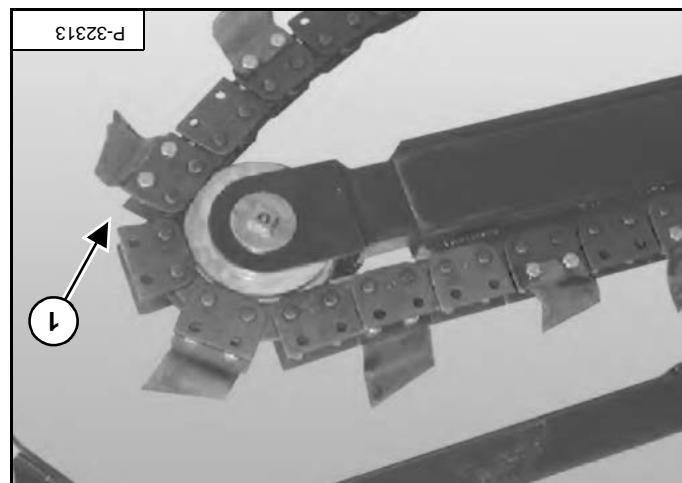

Figure PM-14
Remove the chain (item 1) [Figure PM-14] from the boom